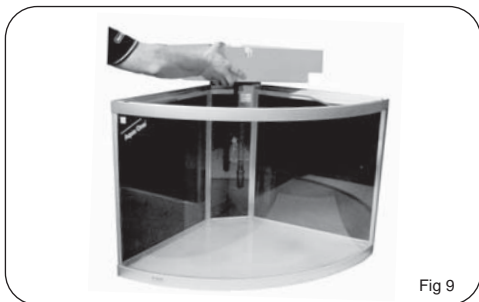

Fig 9
16. Place the **Filter Unit** (Once complete) on top of the **Aquarium Body** towards the back. Fig 9